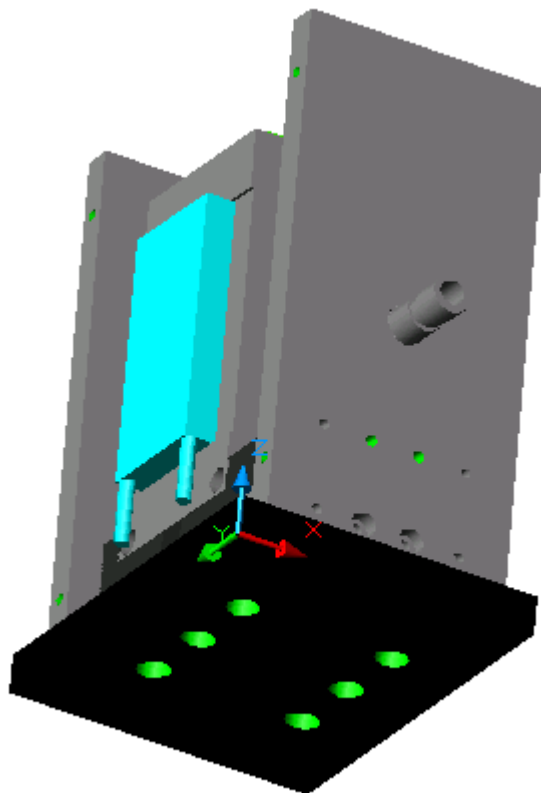

Figure 35. Peltier cooler stuck to RF shield with thermal paste.
**STEP 15:** Get a peltier (thermo-electric) cooler (TE Technology #TM-TB-63-1.4-2.5) and stick it to the slot in the upper RF shield with a thin layer of thermal paste. The wires from the peltier cooler should face down, and the face closest to the wires should face away from the RF shield (see figure 35).